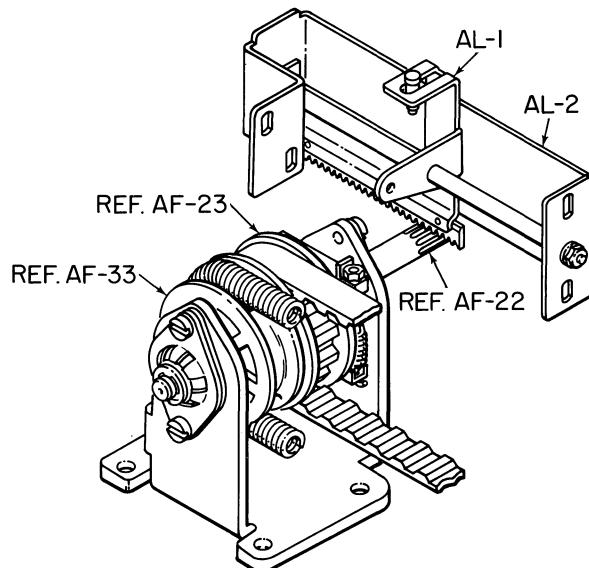

Figure 5-15. RACK AND PINION ADJUSTMENT, RIBBON MECHANISM
- Adjust rack guide plate so that teeth on movable ribbon feed rack (AL-1) drop down and mesh with pinion teeth (splined shaft, AF-22) (See Fig. 5-15). Maintain backlash of 0.1 mm (0.004-in.).